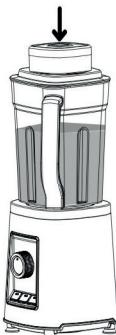

Fig 5
- Place the vacuum pump (8) on the vacuum lid (2) and make sure that it is firmly in place. Make sure that the silicone valve on the vacuum lid is closed. Press the button on the vacuum pump to start the vacuum process. Fig 5. The pump automatically switches off once the process is complete. Remove the vacuum pump (8) afterwards.